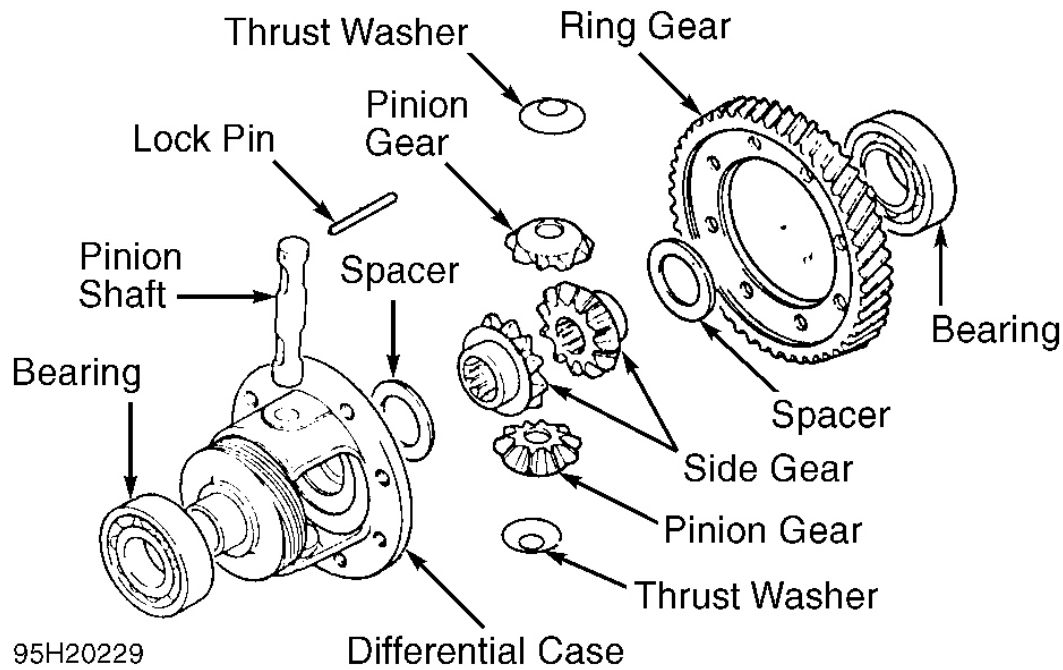

Fig. 30: Exploded View Of Typical Differential Assembly
1. Remove ring gear bolts and ring gear. Remove and discard lock pin. Remove pinion shaft, pinion gears and thrust washers. See **Fig. 30** .